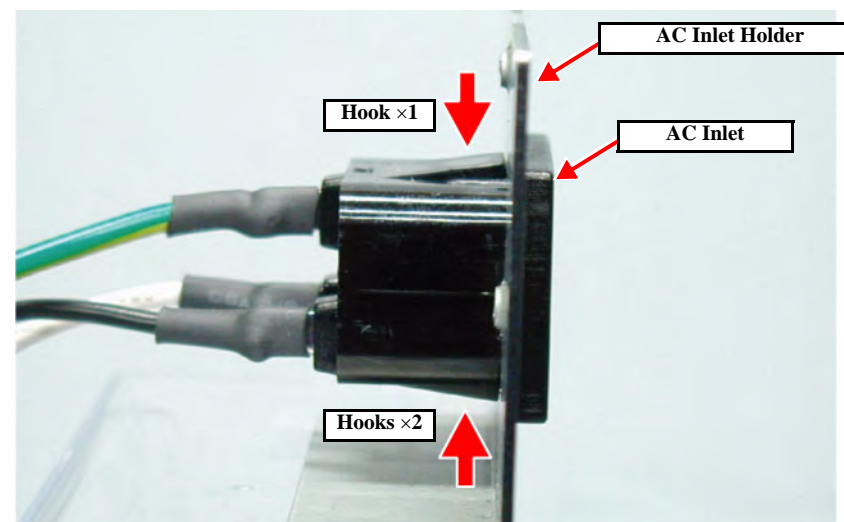

Figure 4-82. Removing the AC Inlet
4. Push the hooks (one top and two bottom hooks) and remove the AC Inlet from the holder. (See Figure 4-82)